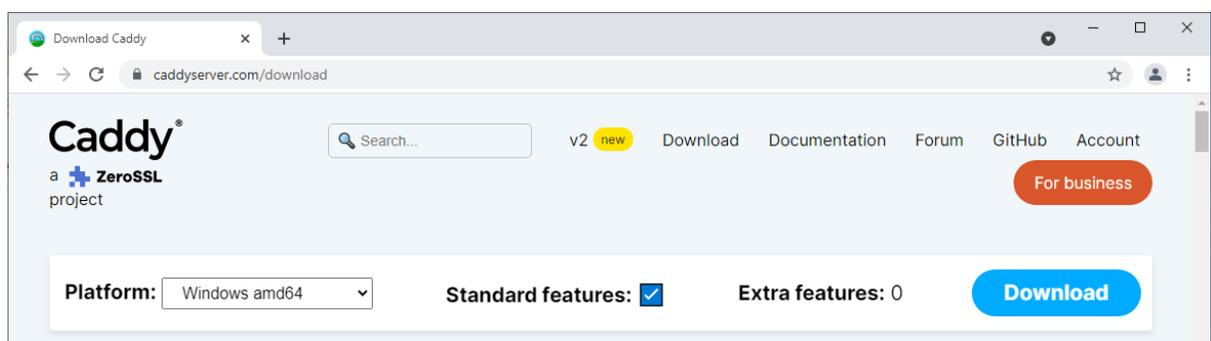

Figure 8: Choose your platform on the Caddy website.
1. To download Caddy, choose your platform from the drop-down list on the Caddy website (Figure 8).